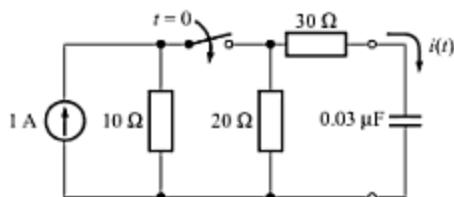

Fig. E-16
- E-21.** The switch in the circuit shown in Fig. E-16 is closed at  $t = 0 \text{ s}$ . Determine the current  $i(t)$  through the capacitor. [Ans.  $0.183e^{-t/1.1 \mu\text{s}}$ ]